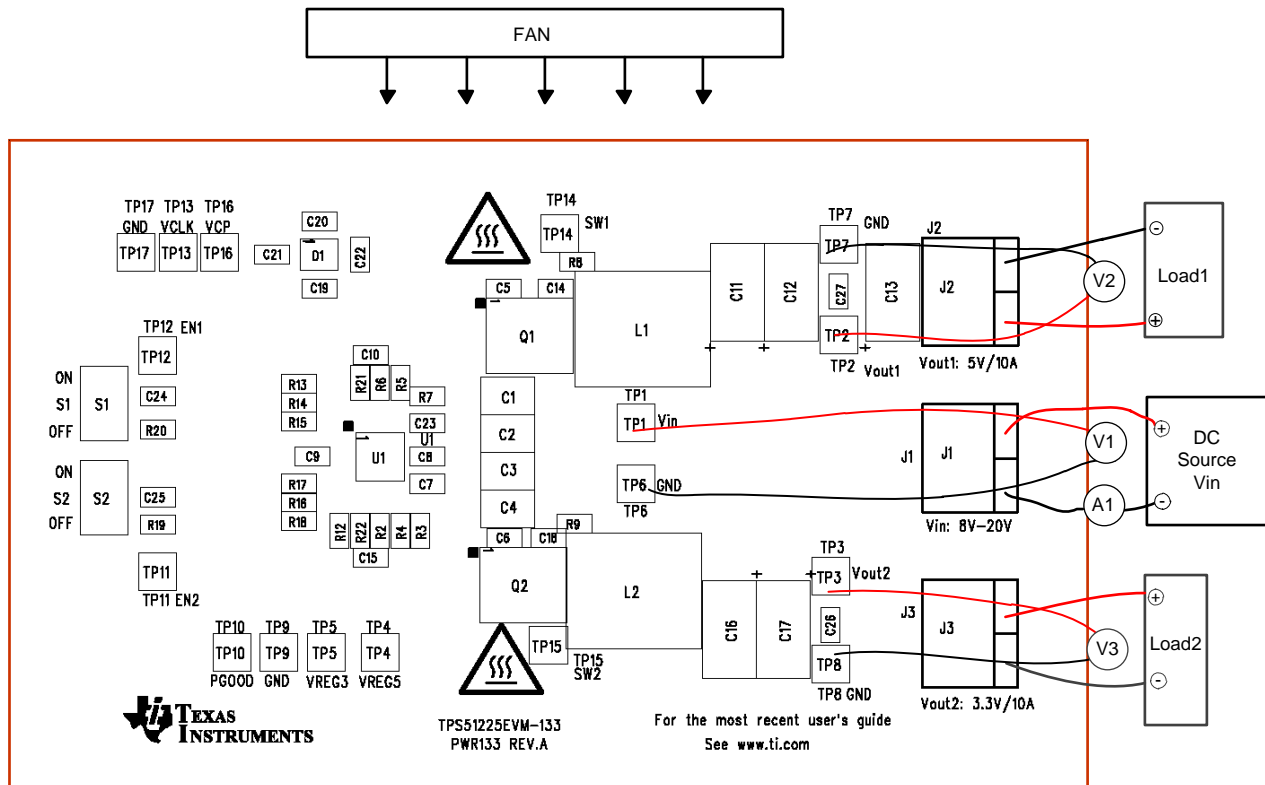

Figure 3. TPS51225EVM-133 Recommended Test Set Up
**Voltage Source:** The input voltage,  $V_{in}$ , should be a 0- to 20-V variable DC source capable of supplying 10 A dc. Connect  $V_{in}$  to J1 as shown in Figure 3.
Figure 3 is the recommended test set up for evaluating the EVM. Working at an ESD workstation, make sure that any wrist straps, bootstraps or mats are connected referencing the user to earth ground before power is applied to the EVM.
1. Prior to connecting the DC input source,  $V_{in}$ , it is advisable to limit the source current from  $V_{in}$  to 10 A maximum. Make sure  $V_{in}$  is initially set to 0 V and connected as shown in Figure 3.
Place a fan as shown in Figure 3 and turn it on, making sure air is flowing across the EVM.
1. Set up the EVM as described in Section 4 and Figure 3